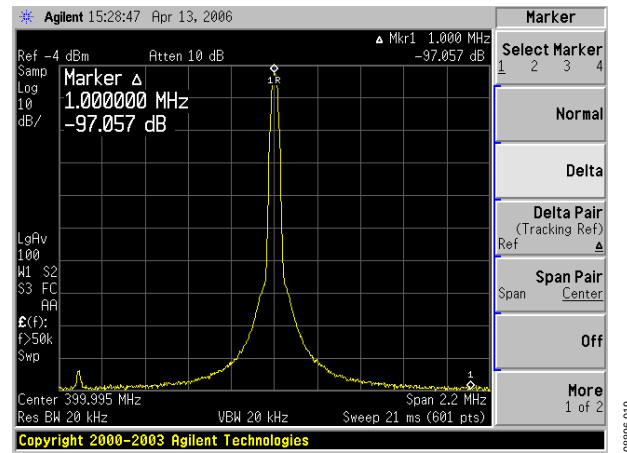

Figure 19. Spectrum Analyzer Display
8. In the software window, set the VCO center frequency (Figure 19 uses a 400 MHz VCO). Set the PFD frequency as defined in ADIsimPLL, and program the reference frequency to equal that supplied to Connector J11 (or the TCXO). See Figure 20 for the suggested setup.
9. Measure the output spectrum. Figure 19 shows a 400 MHz output.